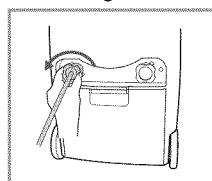

Fig.5
4. Insert the end of hose into the drain hole (Fig.4), then screw DRAIN CAP back onto the unit (Fig.5). Place the other end of the hose in the location you want the water to go: to a floor drain, a water container, or through a basement window to the outdoors. (Pump can lift water up to 15 feet above the unit.) Check hose for kinks or other obstruction.